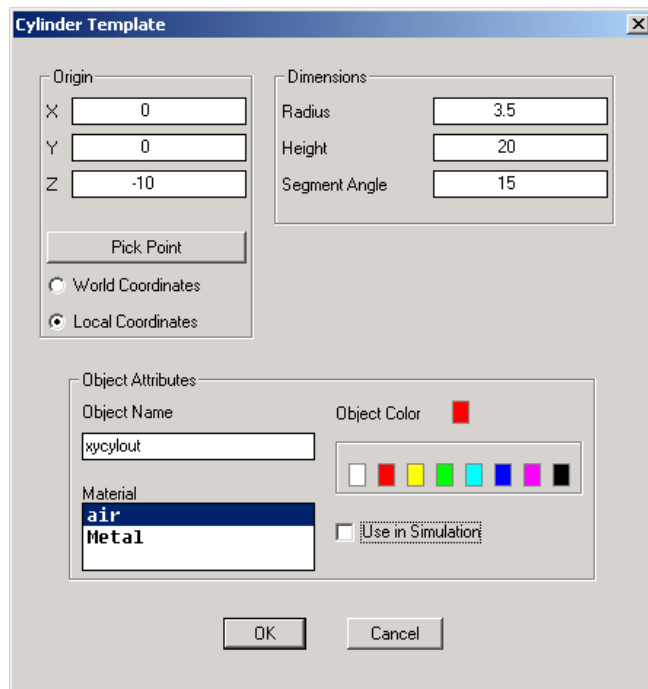

Figure 4 Cylinder Template for the Outer Z-Axis Cylinder
- 6 Refer to the dialog box in Figure 4 and use the displayed origin, dimensions, and other data for your cylinder.
- *Object Name*—Although this field is filled with a name as a default, it is useful to type in a more descriptive name. In Figure 4, the object name is **xcylout**, because the name indicates that this is the outer part of the coax that lies in the XY plane.